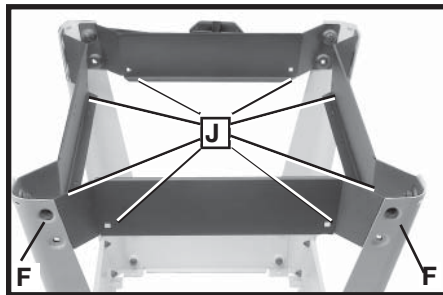

Fig. 9
4. Attach long side leg supports (E) Fig. 8 and short side leg supports to the legs using $\frac{5}{16}$ -18 x $\frac{5}{8}$ " Carriage Head Screws and $\frac{5}{16}$ -18 Serrated Hex Nuts. Insert the screw through the leg first and then the support. **NOTE:** Be sure the holes (J) Fig. 9 in all side supports will be aligned as shown after assembly.
5. Thread hex nut onto screw and finger tighten only. At this time, only assemble eight screws and eight nuts into holes - two of which are shown at (F) Fig. 9. Make sure these are the holes which will be on the bottom (after saw is turned right side up).